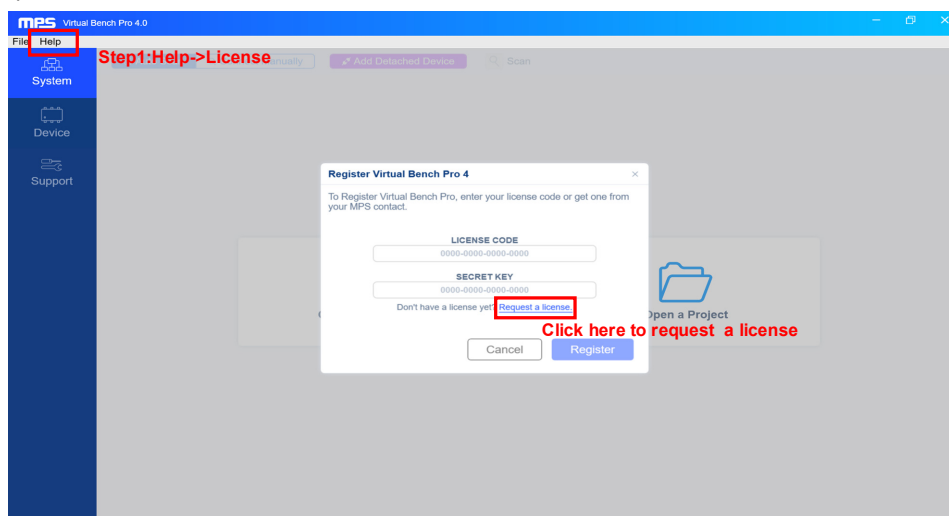

Figure 2: Requesting a License in Virtual Bench Pro 4.0
- a. To request a license, go to the “Help” tab, select “License,” then click “Request a license” (see Figure 2).